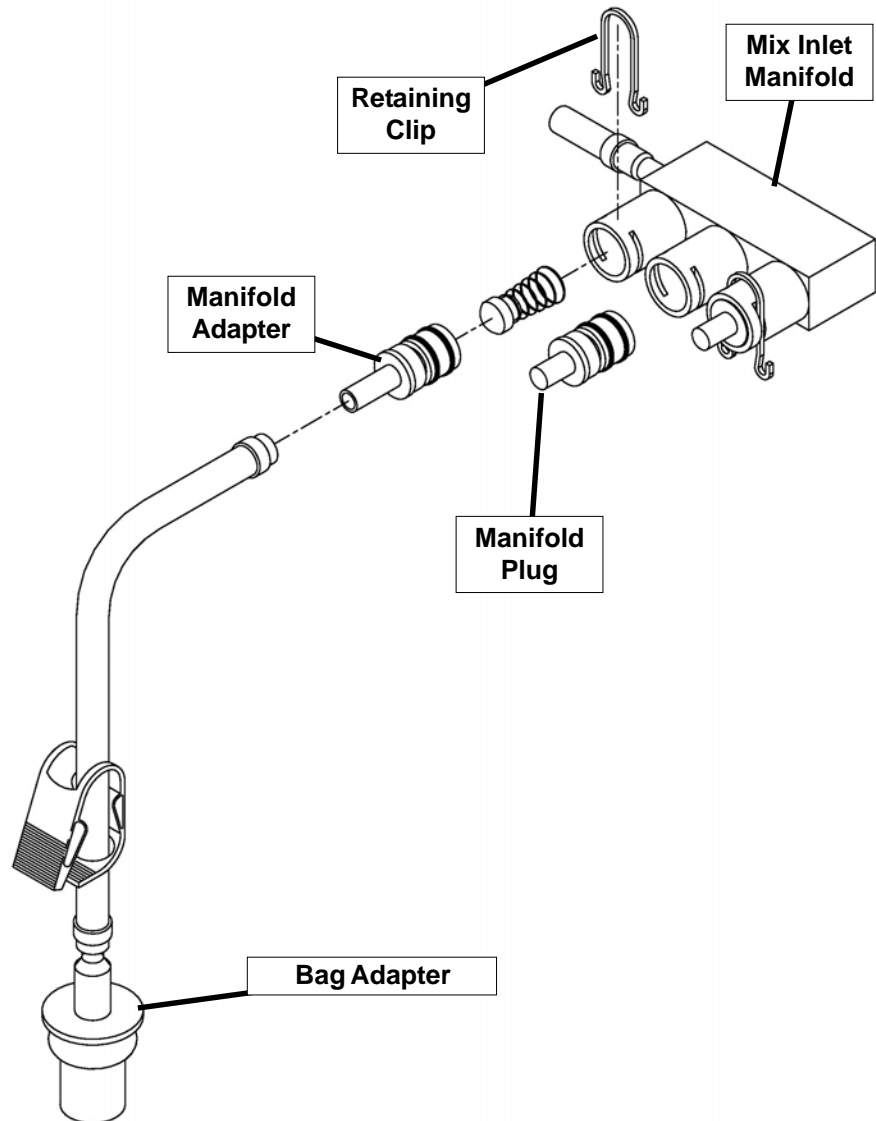

Figure 2-4 Bag Connection System (Optional)
3. Push the manifold adapter with spring and valve into the left port (nearest the manifold outlet) of the mix inlet manifold and secure with retaining clip. (See Figure 2-4).